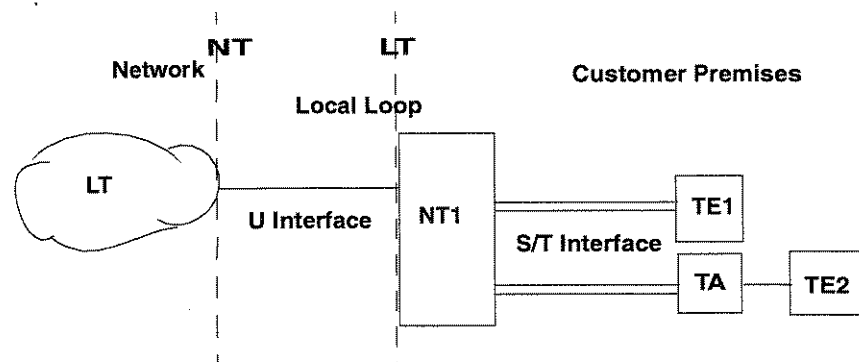

Figure BRI-1. S/T and U Reference Points
The U reference point describes the interface between the Network Termination (NT) and the network Line Termination (LT). It is a two-wire interface with the 2B1Q signaling scheme. The network provides power via the U interface. Figure BRI-1 shows the relationship between the customer premises and the local loop for the S/T and U interfaces.